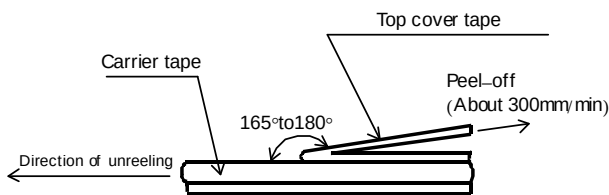
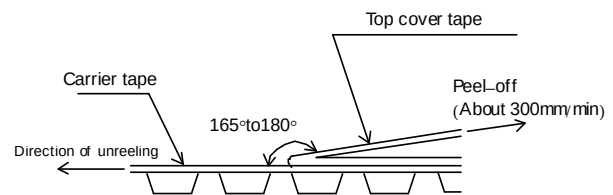

Figure-8
Figure-9
- 5). The peel strength of the top cover tape shall be with in 0.1N to 0.5N on the test method as shown in the following FCR1/16,1/10,1/8: Figure-8, FCR1/4, 1/2, 1: Figure-9.